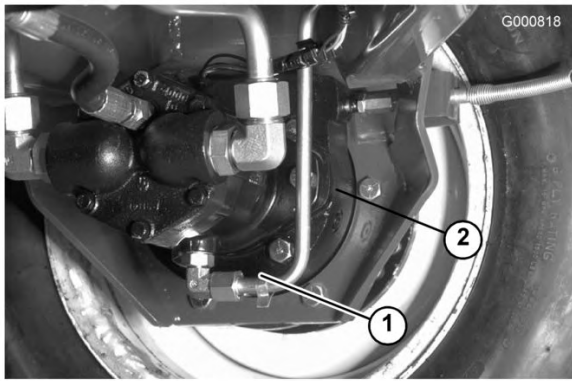

Figure 69
3. Remove both plugs from the bottom of the brake housing and allow the oil to drain (Figure 69).